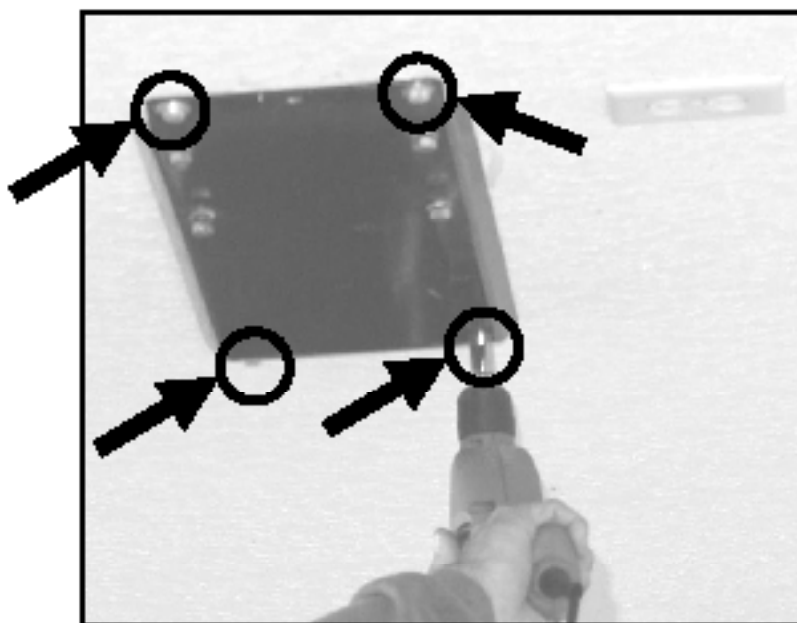

FIG. 1
- Position the paper motor mounting template (V) in the installation area and mark with a pencil the four locations where the wood screws will be fastened.
- It is very important that the wood screws are fastened to the center of the joists. Use the hole saw drill bit (U) or cut away the drywall with a utility knife to obtain an unobstructed view of the width of the joists so the exact center can easily be determined (covered ceilings only). It may be necessary to again use the motor mounting template and a pencil to mark where the wood screws are to be fastened.
- Place the motor mounting plate (A) **without** the motor hoist (B) attached over the screw holes. (To remove the motor hoist from the motor mounting plate loosen (it is not necessary to remove) the nut from the fixed bolts on the motor mounting plate and slide off the motor hoist.)
- Using the ratchet and 1/2" socket fasten four of the 3" lag bolts (K) into the joists until the motor mounting plate is securely fastened. **(SEE FIG. 1)**